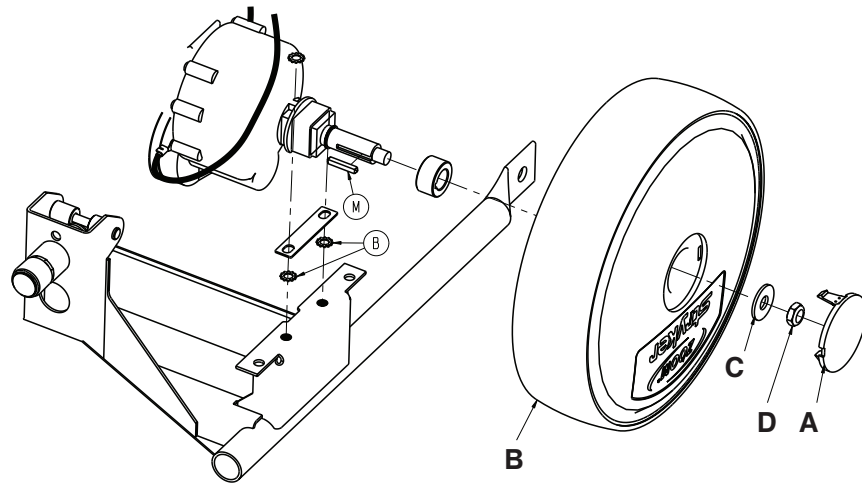

Figure 9 – Drive wheel components
4. Using a large slotted screwdriver, remove the hub cap (A) from the center of the drive wheel (B) (Figure 9).